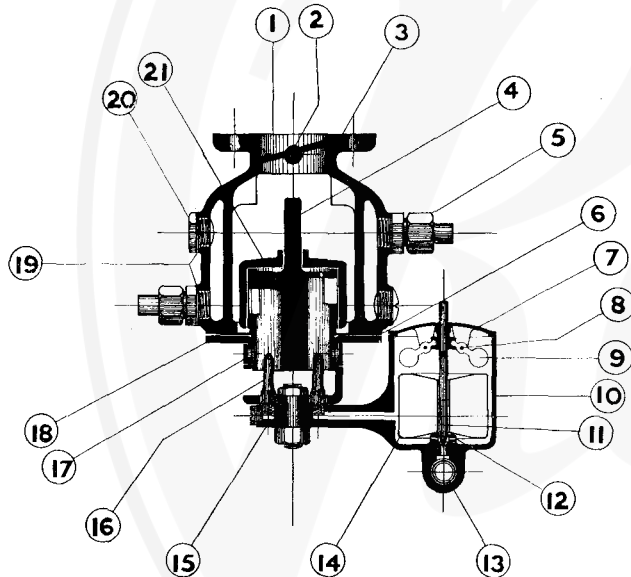
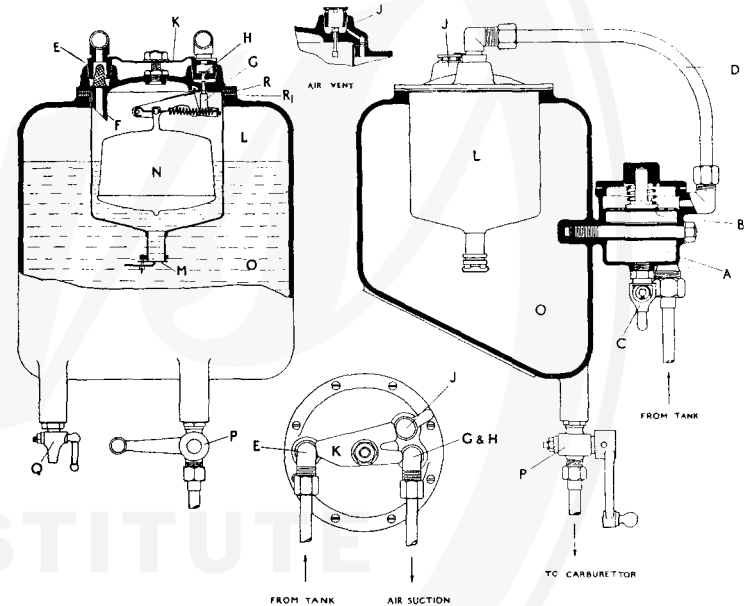

Fig. 10. Description of Carburettor.
Fig. 11. Description of Autovac.
*The Carburettor.* Fig. 10. The selection of carburettor in the 21 h.p. Lanchester car is the outcome of exhaustive Trials on the Test bench and on the road. All the leading types have been tried and the one selected as being most suitable is the Smith 4-jet Carburettor. It is a well-known type and requires no introduction.
Petrol is supplied to the Float Chamber Fig. 10 by gravity from a vessel on the Dashboard within which is contained the Autovac Fig. 11 by means of which the fuel is raised from the tank to the gravity vessel. The Autovac consists of a chamber having an outlet valve, an air valve, and a vacuum valve, the two latter being actuated by a float within the vacuum chamber, and the outlet valve is automatic. The vacuum valve is connected by a small bore pipe. The